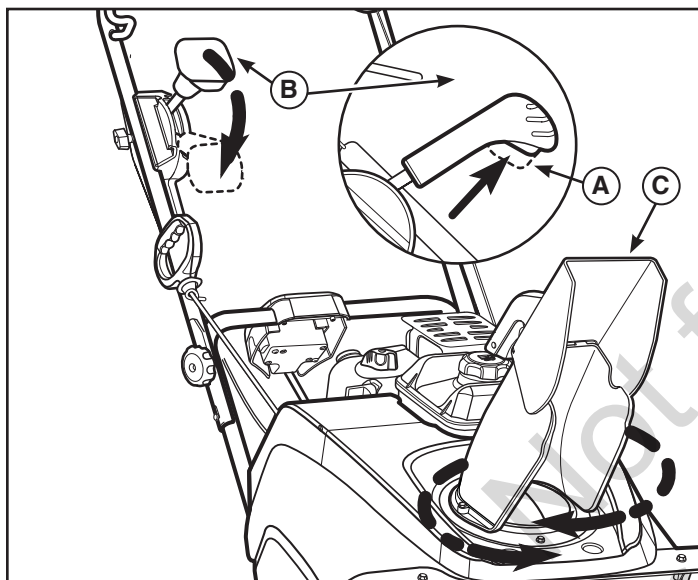

Figure 10
1. Squeeze and hold the button (A, Figure 10, inset) on handle (B) of remote chute control.
2. Push the handle forward to rotate the chute (C) counterclockwise or pull the handle backwards to rotate the chute clockwise as shown on Figure 10.